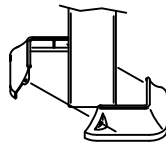

FIG. 6
If mounting plate covers (D2) are used place halves around legs and secure with 2 (M) screws, see FIG. 6. Draw to a snug fit being careful not to over tighten.